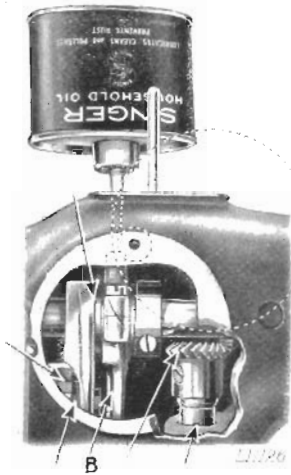

FIG. 66. OILING POINTS AT THE
Loosen the thumb screw at the rear side of the machine and turn aside the cover plate as indicated by the dotted line in Fig. 66. Rotate the balance wheel until the connecting rod indicated by (B) in Fig. 66 is at its highest position. Apply a few drops of oil, through the hole in the top of the machine, to the wick which is retained in the cap of the connecting rod as indicated in Fig. 66. Also oil the other moving parts and oil hole inside the machine arm, then turn the cover plate to its original position and fasten it by tightening the thumb screw.